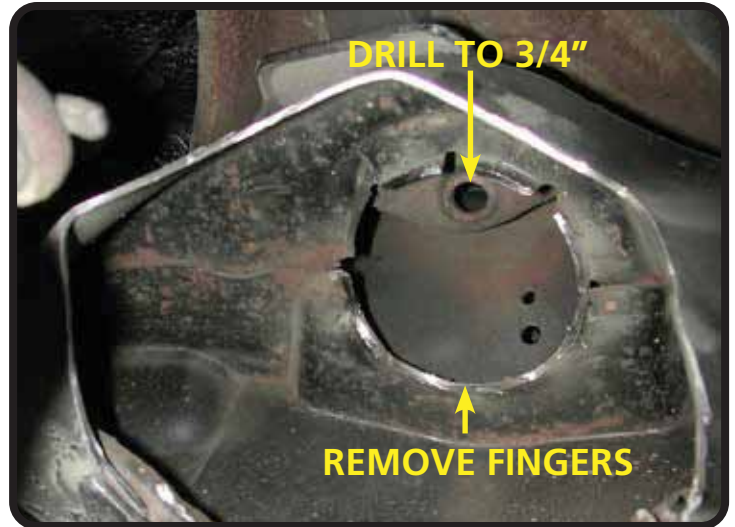

Figure 1
2. Drill out the OEM shock hole to 3/4". This can be done with a Unibit. The Shockwave may also come in contact with the coil spring retaining fingers. Test fit the Shockwave, and if necessary remove the retaining fingers. A die grinder works well for this (Figure 1).